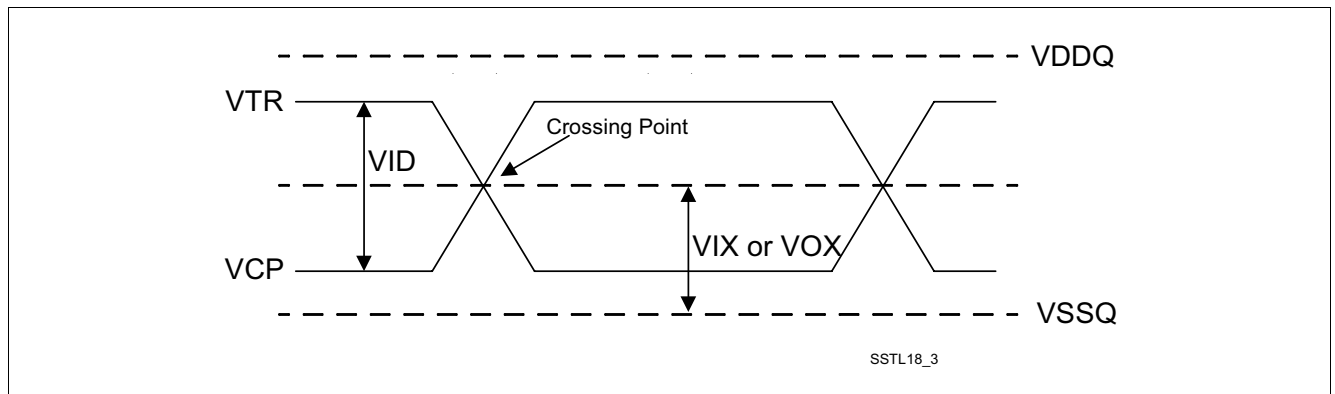

**Figure 60 Single-ended AC Input Test Conditions Diagram**
- 2) The input signal minimum Slew Rate is to be maintained over the range from  $V_{IH(ac).MIN}$  to  $V_{REF}$  for rising edges and the range from  $V_{REF}$  to  $V_{IL(ac).MAX}$  for falling edges as shown in Figure 60.